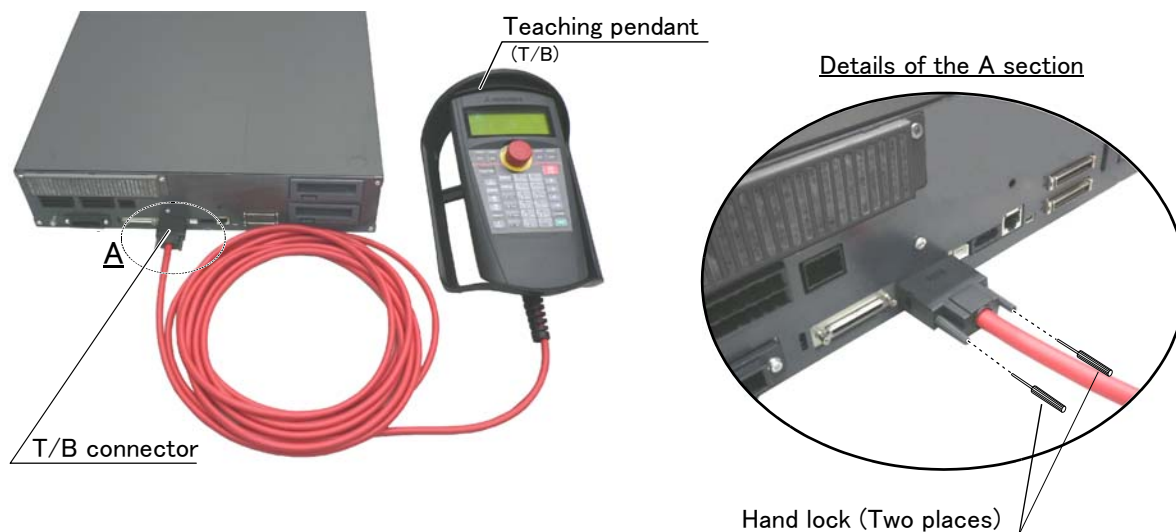

Fig. 2-12 : Installing and removing the T/B (CR751 controller)
- 2) Connect the T/B connector to the controller's T/B connector. Make sure to fix it securely by fastening the hand locks (in 2 places), as shown in Fig. 2-12.